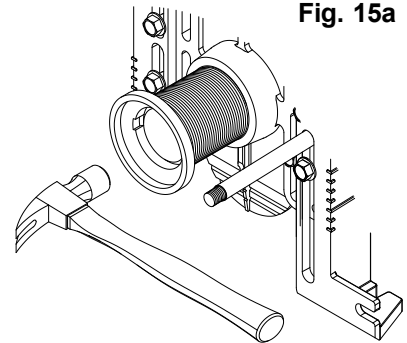

Fig. 15b
Knock out the test cap with a hammer and deburr sharp edges (-CS coupling only). See Fig. 15b
- b. EZ-Set™ Coupling (using knock-out feature) – Remove coupling protector. Ensure coupling is flush with the finished wall. Knock out the test cap with a hammer and deburr sharp edges. See Fig. 15b